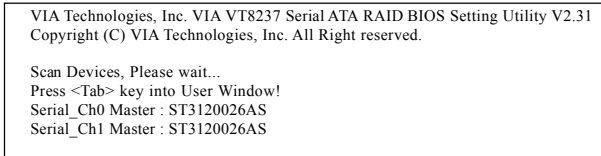

Figure 11
- 1 Upon re-boot, you will see the RAID software prompting you to press the <Tab> key to enter the VIA VT8237 SATA RAID BIOS User Window (Figure 11). Press the <Tab> key.